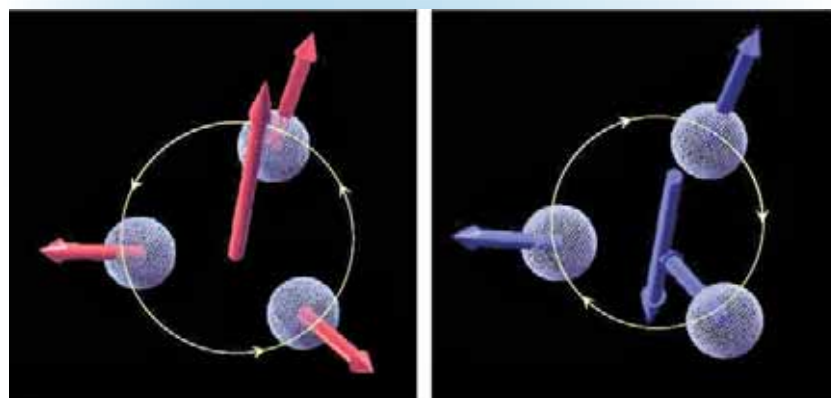

Figure 1: Schematic representation of spin chirality. Reversing one of the spins (right) results in reversing the spin chirality.
Tanaka and colleagues have combined high-speed x-ray diffraction with *in situ* time-resolved laser reflectometry to simultaneously probe the structural and optical properties of two different DVD materials, $\text{Ge}_2\text{Sb}_2\text{Te}_5$ (GST) and $\text{Ag}_{3.5}\text{In}_{3.8}\text{Sb}_{75.0}\text{Te}_{17.7}$ (AIST)¹ (Fig. 1). This has enabled them to track the microscopic processes that take place in these materials, in real-time, as they change from an amorphous to a crystalline state.
Figure 1: Cross-section images of a DVD disc together with the time-resolved x-ray diffraction data for the crystallization process by laser irradiation. The phase-change materials investigated are AIST and GST.
Figure 1: Image of the electrostatic potential on the electron density isosurface (contours in the atomic structure corresponding to a constant electron density of $0.8 \text{ e}/\text{\AA}^3$) of the ordered insulating state (left) and disordered metallic state (right) of the half-doped manganite, $\text{Nd}_{1/2}\text{Sr}_{1/2}\text{MnO}_3$. Manganese (Mn) atoms bonded to neighboring oxygen atoms with a valency of 3+ and 4+ in the ordered state, and 3.5+ in the disordered state, are labeled.
distribution which gives rise to metallic electrical behavior. But at a much lower temperature of 18 K (-255.15°C), the researchers observe that the charge distribution in certain planes of the material exhibits a zigzag pattern. More significantly, the amount of information that their technique provides enables them to determine exactly how the atoms within the structure of the material are bonded to each other under both conditions. In the disordered state, they find that the manganese atoms bond to neighboring oxygen atoms with a valency of +3.5. Whereas in the ordered state, they find they bond with a valency of either +3 or +4 depending on their position (Fig. 1).
Chirality, or handedness—where an object cannot be superimposed on its mirror image—is found in many physical systems. In the case of electron spin—the smallest magnetic field generated by an electron—the chirality shown by some compounds can be quantified by the solid angle subtended by three nearby spins, and can be controlled by the application of a magnetic field (Fig. 1).
The researchers’ proposal could reduce decoherence further by avoiding the need for fast logic gates acting on qubits. Their alternative approach involves slowly transferring populations of qubits between selected quantum states (Fig. 1).
Figure 1: The slow and robust transfer of a qubit from one quantum state (1) to another (2). The temporal evolution of the energy levels (upper panels) and the populations of those energy levels (lower panels) are shown for a two-state quantum system. The population transfer from one quantum state to another occurs only in the circuits with an electromagnetic (coupling) pulse (right-hand panels).